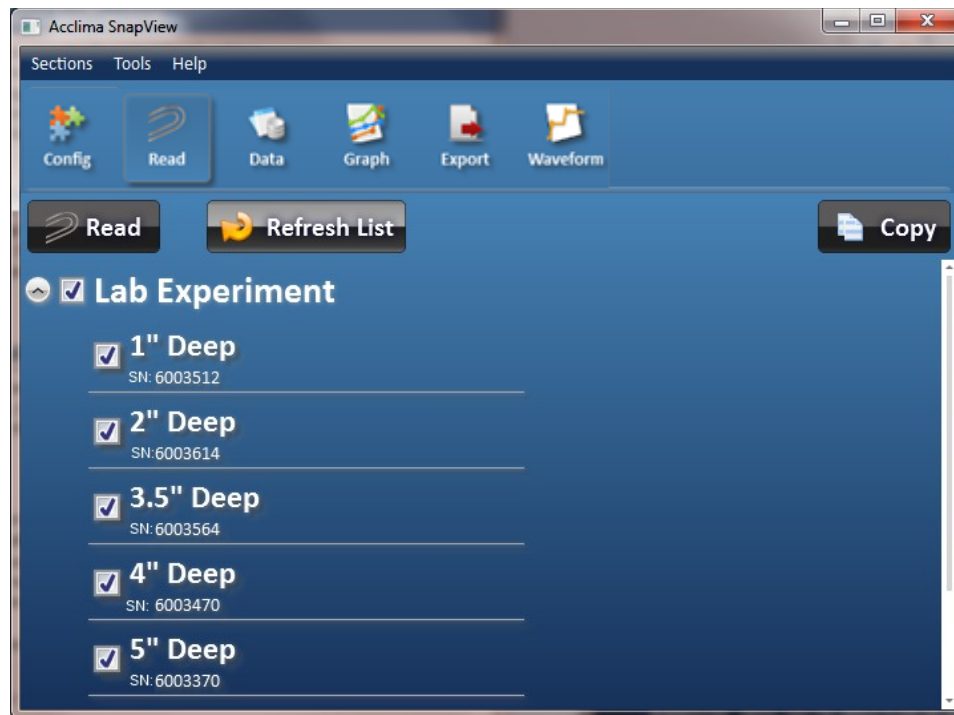

Figure 13 - Initial Read Sensor Screen
- Click the 'Read' button at the top of the screen. A list of all connected DataSnaps and their configured sensors is displayed as seen in **Figure 13**. By default, each DataSnap and each sensor is selected. This is denoted by a check mark next to the name. Each time the 'Read' button is clicked, all selected (ie: checked) sensors will be read and the data displayed. To select or deselect all sensors on a DataSnap, click the checkmark next to the DataSnap's name. To expand/collapse the list of sensors, click the gray circle or click the DataSnap's name. Individual sensors can be selected/deselected by clicking the checkmark next to the sensor name.